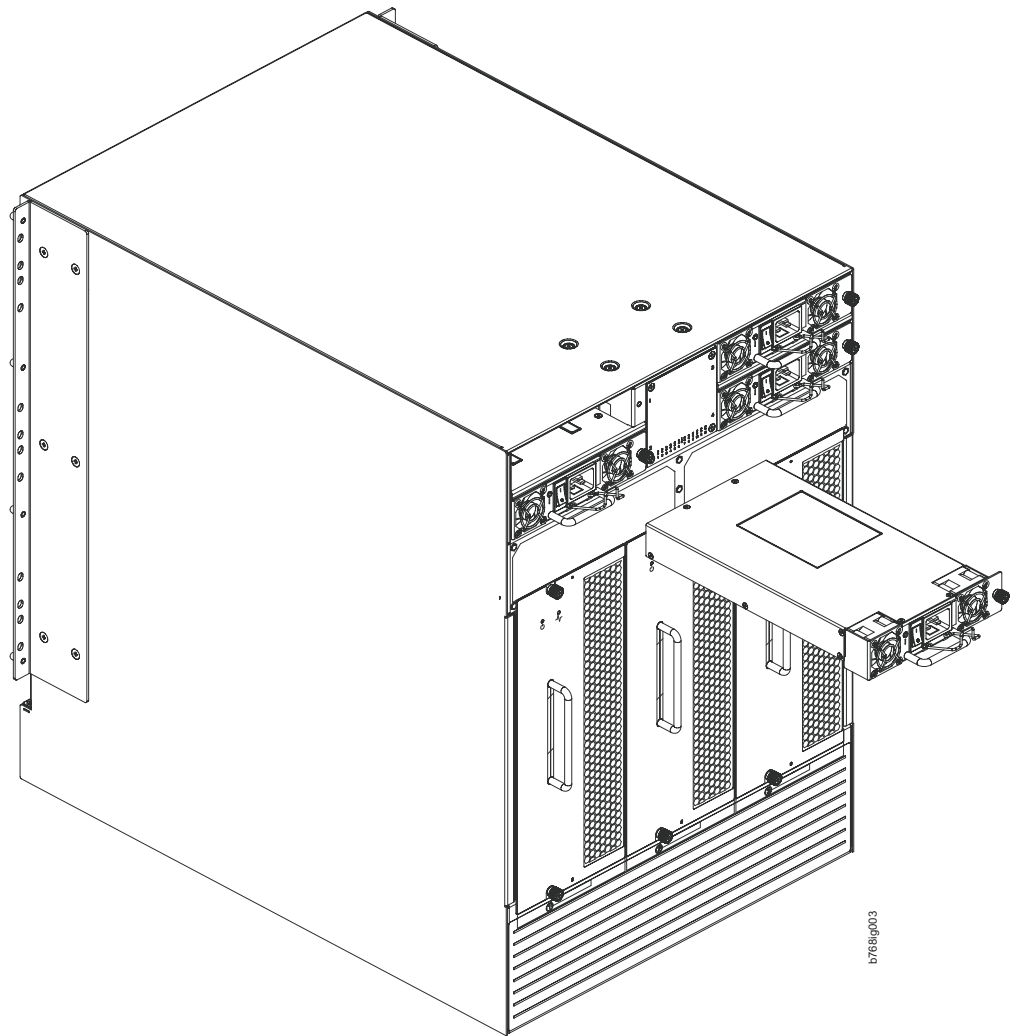

Figure 34. Removing and installing a power supply
5. Grasp the handle and pull, sliding the power supply from the chassis, supporting the power supply from beneath as you remove it. (see Figure 34).